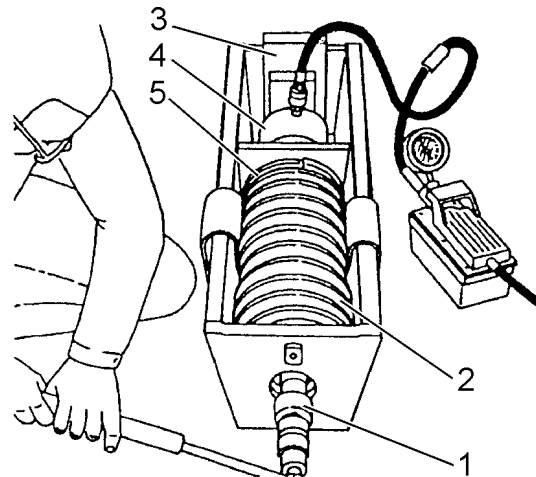

Fig. 14.56. Spring Reassembling
3. Start spring bolt (1, Fig. 14.56) and bottom against front spring seat (5). With bolt (1) holding spring (2), place additional blocking (3) behind ram (4). Compress spring and tighten bolt, but DO NOT put an over amount of tension on spring bolt.